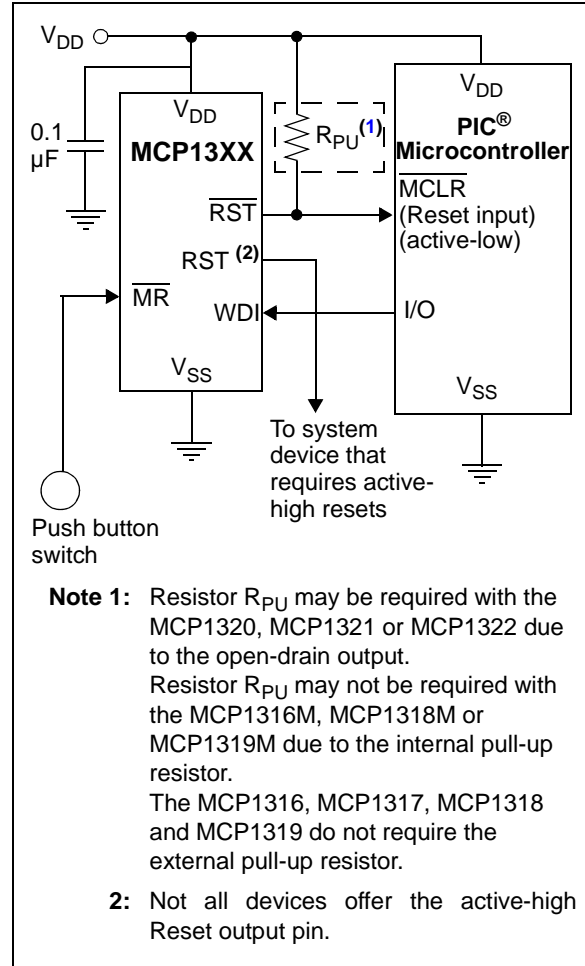

FIGURE 4-1: Typical Application Circuit.
**Note:** Unless otherwise indicated, all limits are specified for  $V_{DD} = 1V$  to  $5.5V$ ,  $R_{PU} = 100\text{ k}\Omega$  (only MCP1316; see Figure 4-1),  $T_A = -40^\circ\text{C}$  to  $+125^\circ\text{C}$ .
For many of today's microcontroller applications, care must be taken to prevent low-power conditions that can cause many different system problems. The most common causes are brown-out conditions, where the system supply drops below the operating level momentarily. The second most common cause is when a slowly decaying power supply causes the microcontroller to begin executing instructions without sufficient voltage to sustain volatile memory (RAM), thus producing indeterminate results. Figure 4-1 shows a typical application circuit.